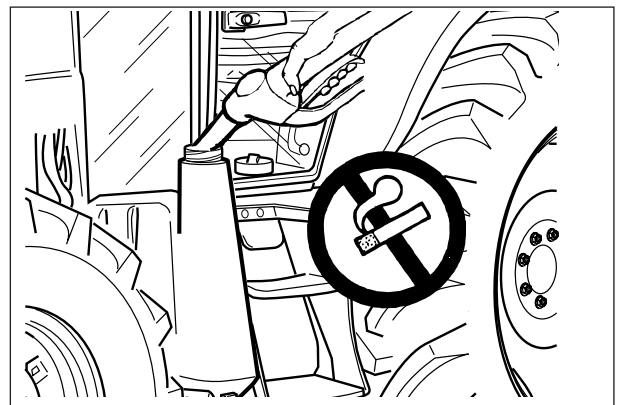

Fig.2-7
- DO NOT smoke while refuelling the tractor. Keep any type of open flame away (Fig. 2-7). [4.1.i]